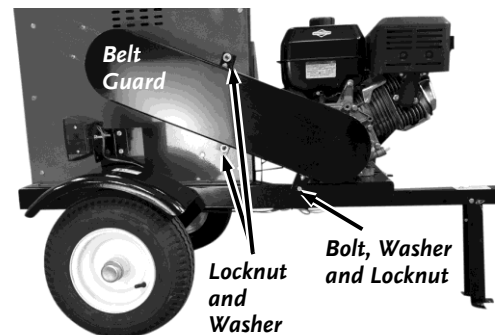

Figure 42
1. Remove the Bolt, Washer and Locknut that attaches the lower portion of the Guard to the Base (**Figure 42**).